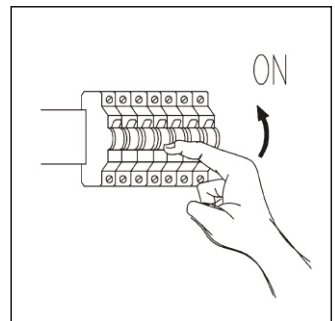

Fig.6
Step 6: Power up the fitting to check if it functions correctly (Fig.6).